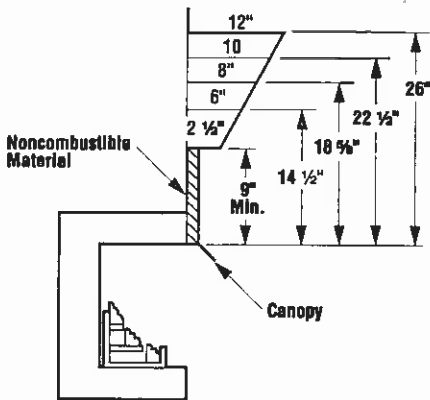

Figure 4
**Step 4. Noncombustible material (minimum requirements) with wood mantel or other combustible projections:** To install the firebox with a wood mantel, shelf or other combustible projection above firebox opening, at least 9" of noncombustible material must be installed above the fireboxes described in this manual (Figure 4).
**WARNING: THE CANOPY HOOD MUST BE IN PLACE TO BE IN COMPLIANCE WITH THE CLEARANCES SPECIFIED IN FIGURE 4.**